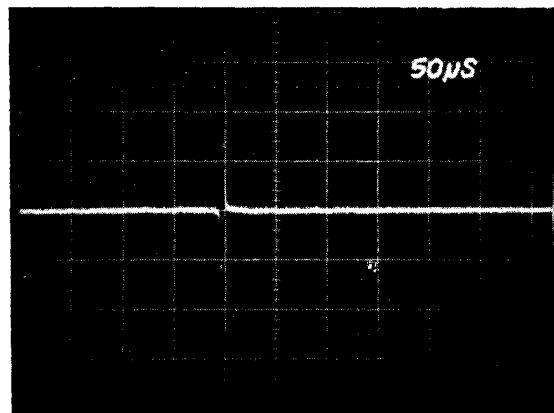

FIGURE 5 INDEX TIMING
- Observe the timing between the start of the sweep and the first data pulse. This should be $200 \pm 100 \mu$ sec. If the timing is not within tolerance, continue on with the adjustment. Reference Figure 5.